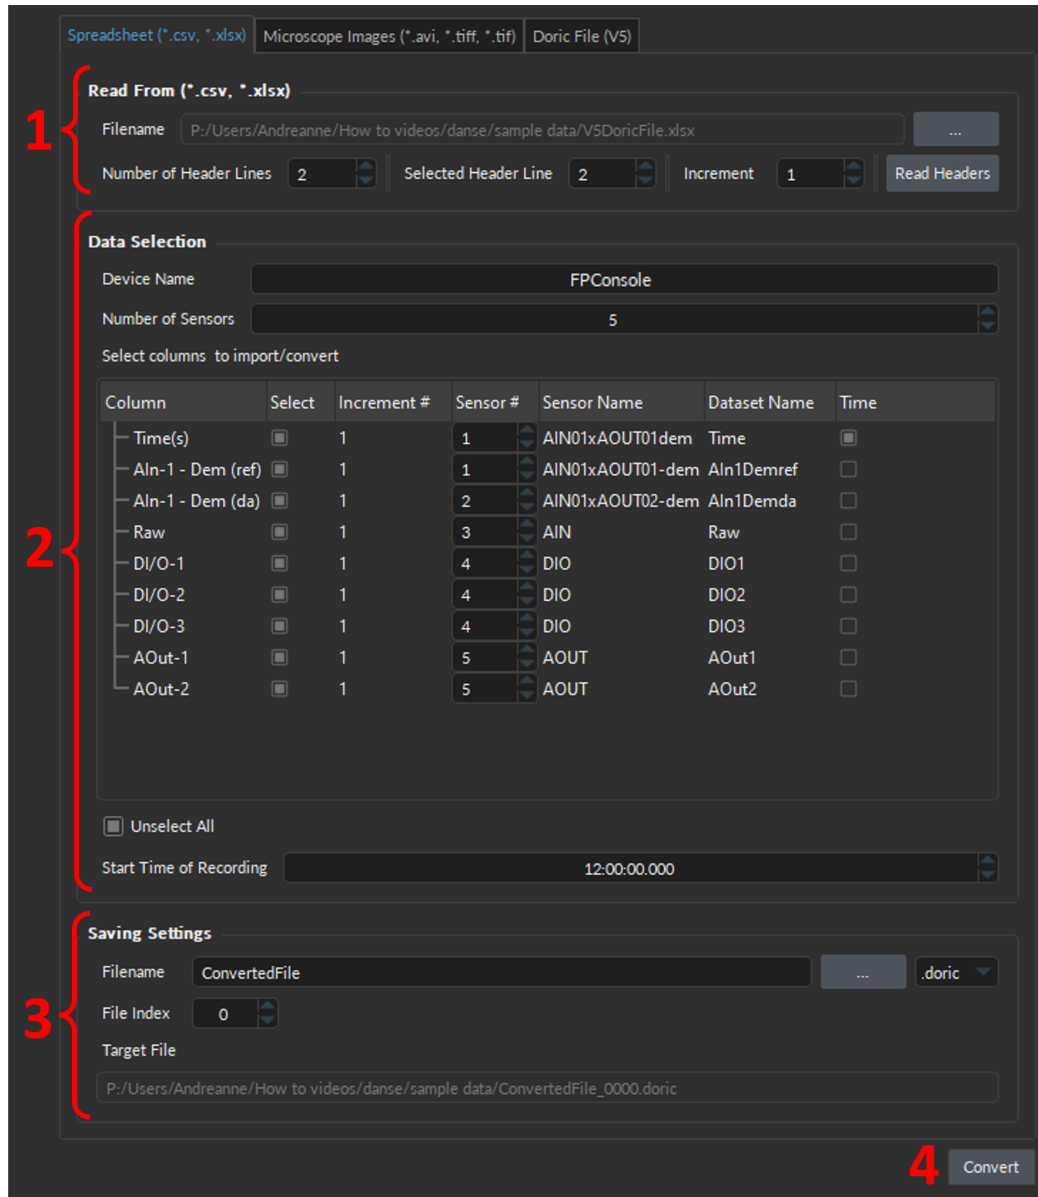
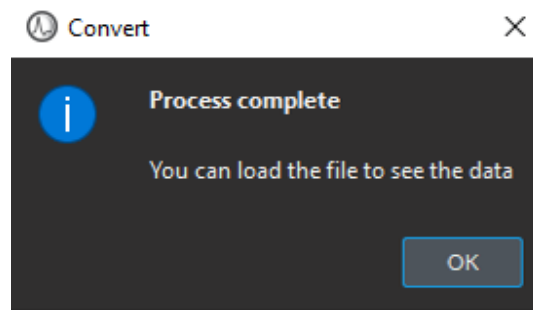

Figure 12.7: Convert Window, Spreadsheet Tab
Figure 12.10: Convert Spreadsheet, Process Complete Pop-up
1. The **Read From** section (Fig. 12.7, 1) is used to select the **Spreadsheet** that will be converted into a v6 .doric file.
- The **Selected Header Line** specifies which header line (if there are multiple) will be read into the **Data Selection** table and then used when converting the file. The value selected in the text-box represents the index number of the **Selected Header Line**. For instance, a **Selected Header Line** of **2** reads the bottom header row in Fig. 12.8, b. Such that the name of the header is displayed in the first column of the **Data Selection** table (Fig. 12.7, 2).
- The **Read Headers** button updates the **Data Selection** table (Fig. 12.7, 2) if the following parameters were modified: **Number of header lines**, **Selected Header Line**, **Increment**, and **Number of Sensors**.
2. The **Data Selection** section (Fig. 12.7, 2) contains the following parameters:
- The **Device Name** specifies the type of device used to collect the data. For instance, if a *Doric Fiber Photometry Console* was used, you could put *FPConsole* as the **Device Name**, like for the spreadsheet example (Fig. 12.7).
- The **Number of Sensors** corresponds to the maximum number of channel or sensor types. For instance, continuing with the *FPConsole* example (Fig. 12.7 & 12.8) Analog In, Analog Out, and Digital In/Out are three separate types of channels. In addition, demodulated signals (when using the Lock-In mode) count as separate sensors. Thus, we would have a total of 5 sensors for this data file.
3. The **Saving Settings** section (Fig. 12.7, 3) specifies:
4. The **Convert** button (Fig. 12.7, 4) initiates the conversion process. A **Process Complete** pop-up window (Fig. 12.10) will be displayed if the conversion was successful. To view the file in the **File Manager** you must first load it (See Section 12.2).